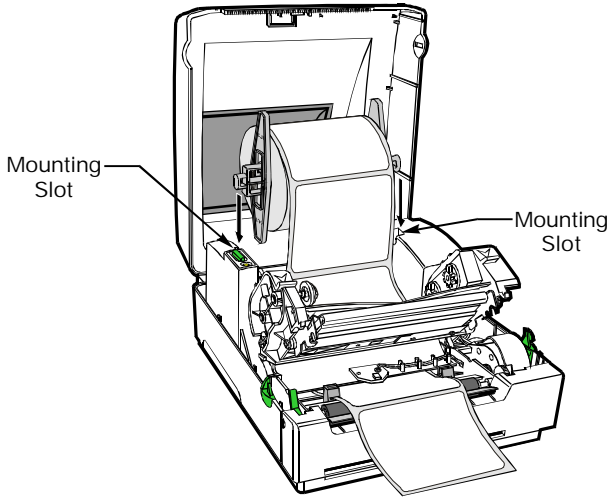

Figure 8
11. Place the media hanger into the two mounting slots (refer to Figure 8).